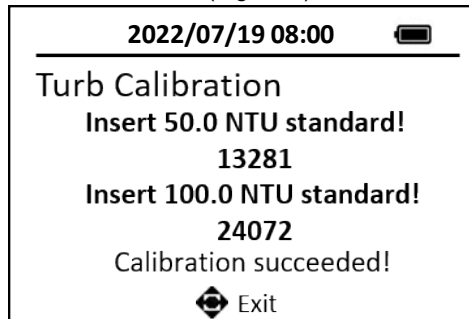

Figure 8 Turbidity calibration for high range
11. Press the **Continue** key to measure the selected standard. High range turbidity calibration is successful. (Figure 8)